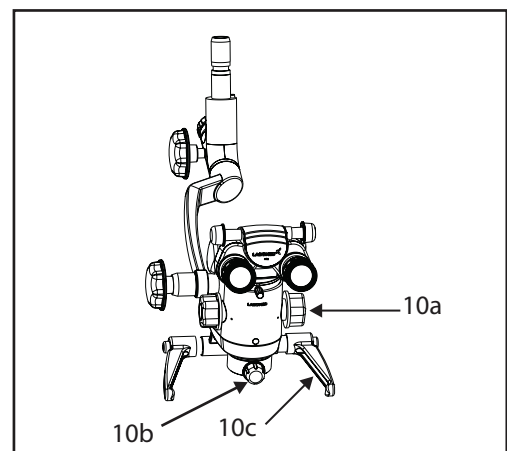

Fig. 10
2. Although tension on microscope is factory preset as per the ordered configuration. Still user can adjust up and down force by tuning the knob (B) clockwise or anticlockwise.
3. Lock the Up & Down movement of suspension arm using locking knob(C) in fig. 10 after coarse focusing of the attendance area.
Setting up of magnification (Ref. Fig. 10)
2. Fine focusing is done through knob (10b) provided on objective as shown in fig. 10